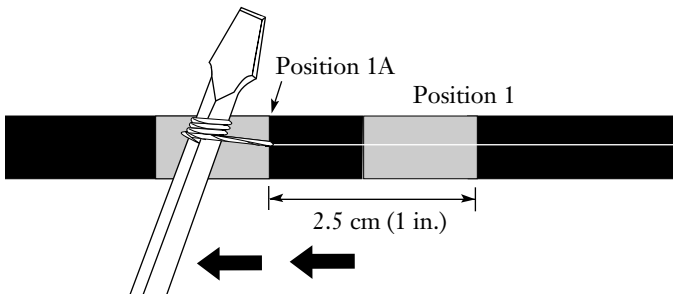

Figure 20
**6.10** Pull the rip cord through the sheath to the tape mark at Position 1A to accommodate application of grounding hardware on the armor (Figure 20).